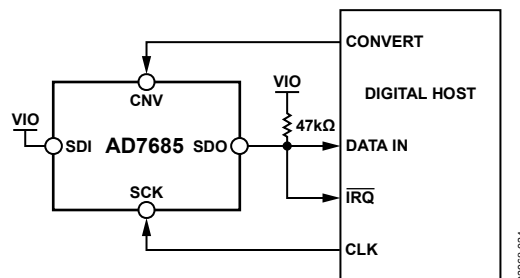
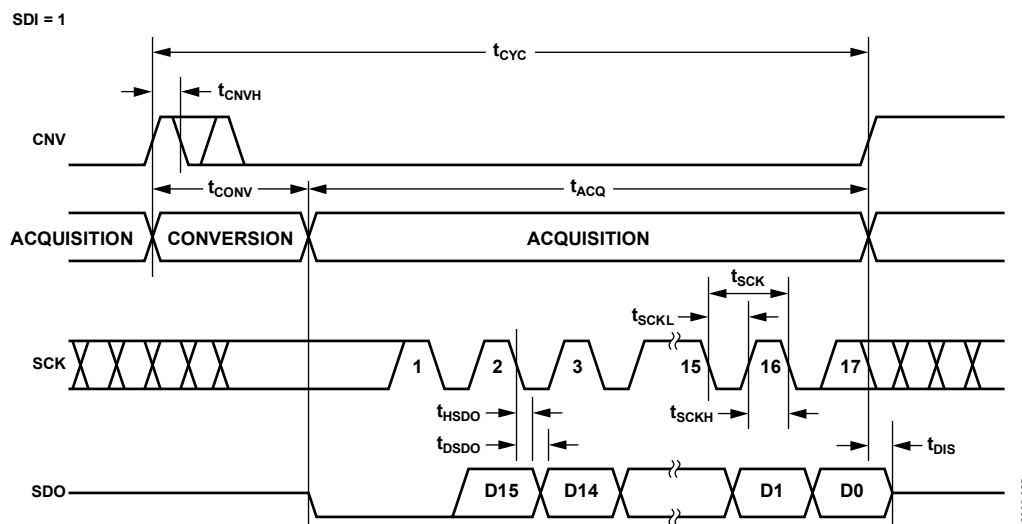
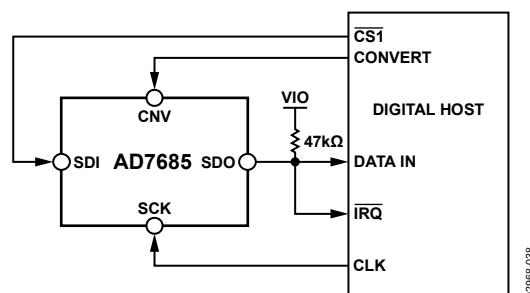
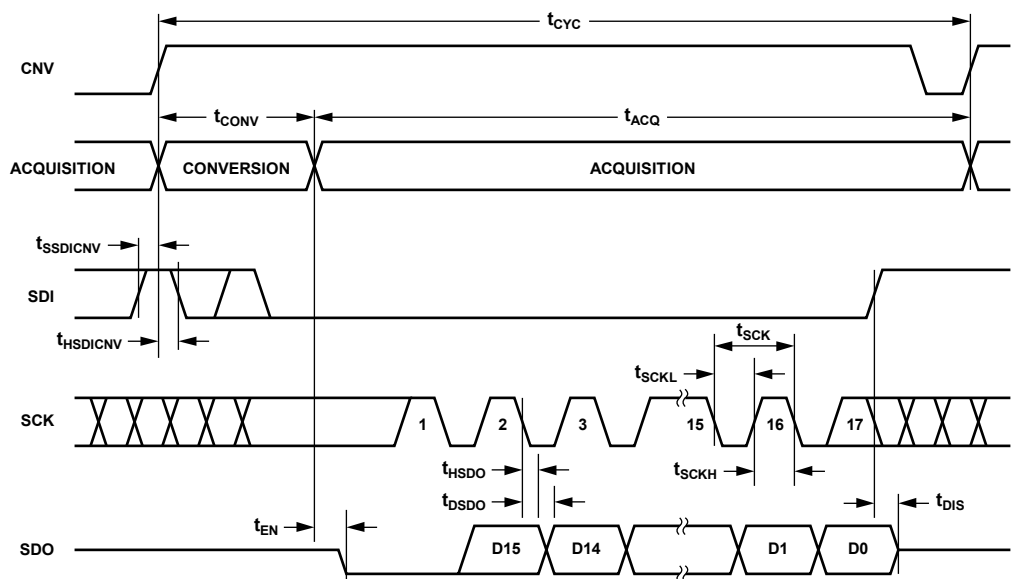

Figure 36.  $\overline{\text{CS}}$  Mode 3-Wire with BUSY Indicator Connection Diagram (SDI High)
Figure 37.  $\overline{\text{CS}}$  Mode 3-Wire with BUSY Indicator Serial Interface Timing (SDI High)
Figure 40.  $\overline{\text{CS}}$  Mode 4-Wire with BUSY Indicator Connection Diagram
Figure 41.  $\overline{\text{CS}}$  Mode 4-Wire with BUSY Indicator Serial Interface Timing
- In the  $\overline{\text{CS}}$  mode, if CNV or SDI is low when the ADC conversion ends (see Figure 37 and Figure 41).
The connection diagram is shown in Figure 36, and the corresponding timing is given in Figure 37.
The connection diagram is shown in Figure 40, and the corresponding timing is given in Figure 41.